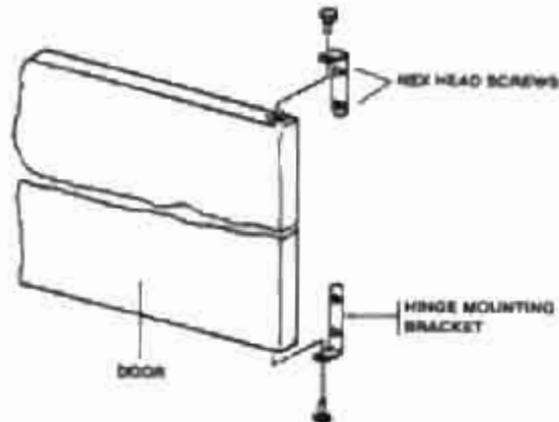
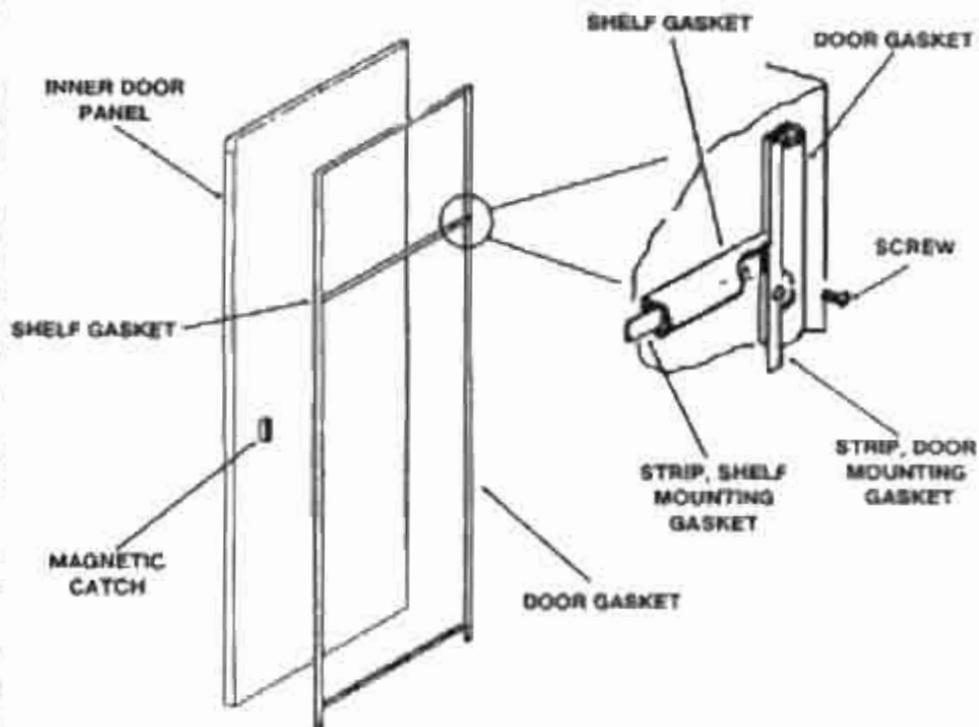

Figure 3-10. Door brackets.
Figure 3-11. Door and shelf gaskets.
a. Adjustment (fig 3-10).
- (1) Loosen the two hex head screws on both the upper and lower hinge mounting brackets.
- (2) Arrange blocking under the lower edge of the door to align it with the front of the cabinet.
- (3) Tighten the hex head screws.
- (4) Ensure that the door alignment is correct or repeat steps (1) through (3) again.
b. Gasket removal and replacement (fig 3-11).
- (1) Ensure that the warming cabinet is off by depressing the power "OFF" switch.
- (2) Open the door fully and stabilize it with blocking.
(3) Lift the edge of the shelf gasket to expose the mounting strip and the Phillips-head screws.
(4) Remove the screws and then remove the mounting strip and shelf gasket.
(5) Lift the edge of the door gasket to expose the mounting strips and the Phillips-head screws. Sequentially remove the screws, mounting strips, and door gasket.
(6) Clean the edge of the inner door panel with a mild cleaning agent.
(7) Insert the mounting strips into the new gaskets.
(8) Install new gaskets by sequentially replacing the screws around the gaskets.